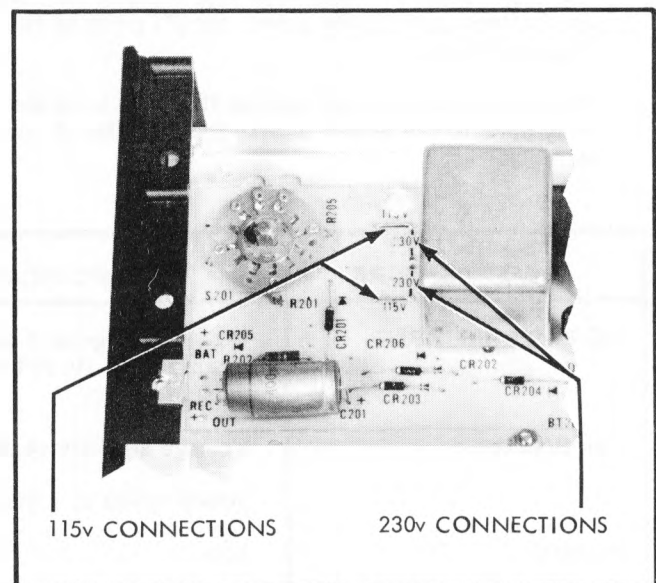

Figure 4-3. T201 115/230 VOLT AC POWER TERMINALS
- b. Locate T201 on the power supply printed circuit assembly and remove the two jumper wires labeled 115V. Refer to Figure 4-3, for location.
- c. Place the jumpers removed in step b across the 230V labeled terminals, refer to Figure 4-3 for location, and solder the connections.